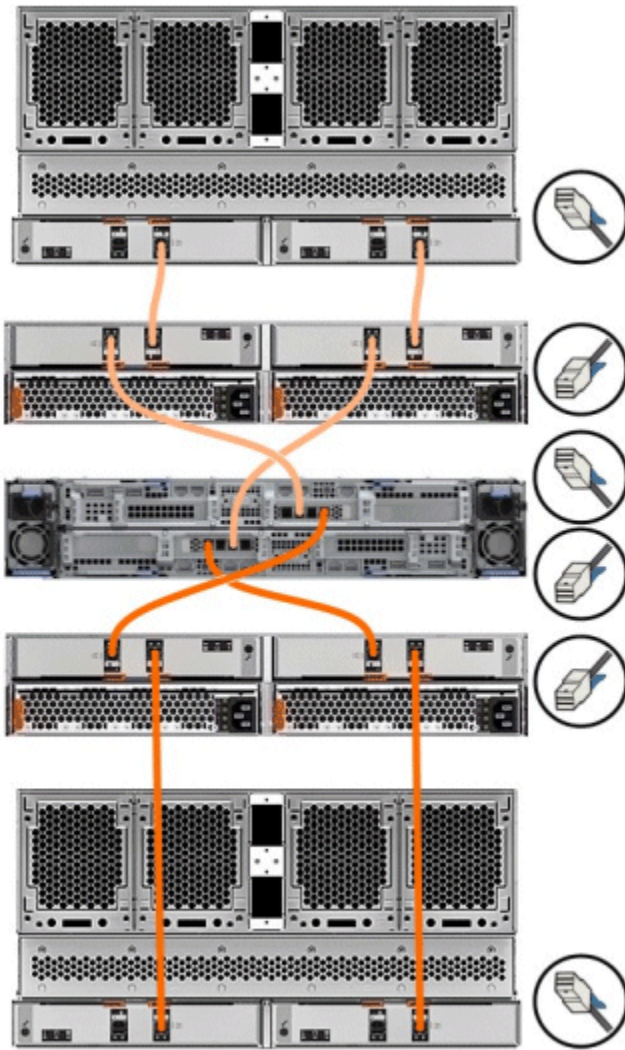

Figure 74. Connecting the SAS cables
- No more than ten 2U expansion enclosures can be chained to SAS port 1 of a node canister. The expansion enclosures in this chain should be installed below the control enclosure, as shown in Figure 74 on page 75.